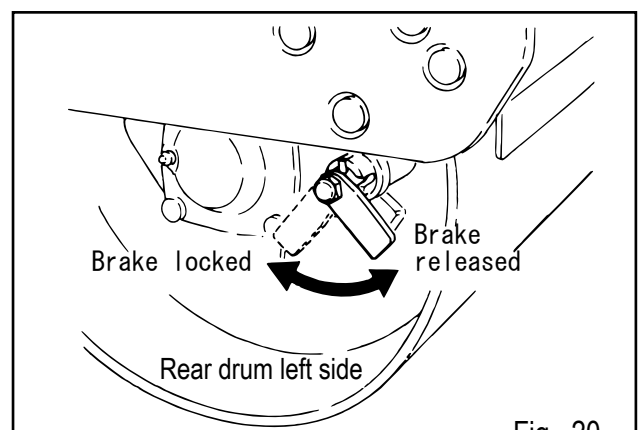

Fig. 20
CAUTION: Before starting to travel, be sure to disengage parking brake system. When the lever is tight, moving the roller back and forth will make it easier. (Fig.20)
- Lock the parking brake by pulling the brake knob and rotating it 90 degrees counter clockwise. (Fig. 20)